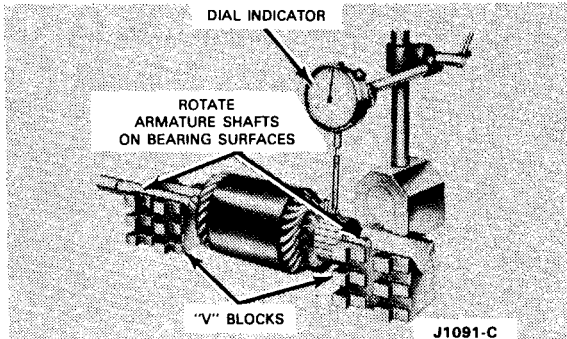

FIG. 10 Commutator Runout Check
4. Check the commutator for run out (Fig. 10). Inspect the armature shaft and the two bearings for scoring and excessive wear. If the commutator is rough, or more than 0.005 inch out-of-round, turn it.